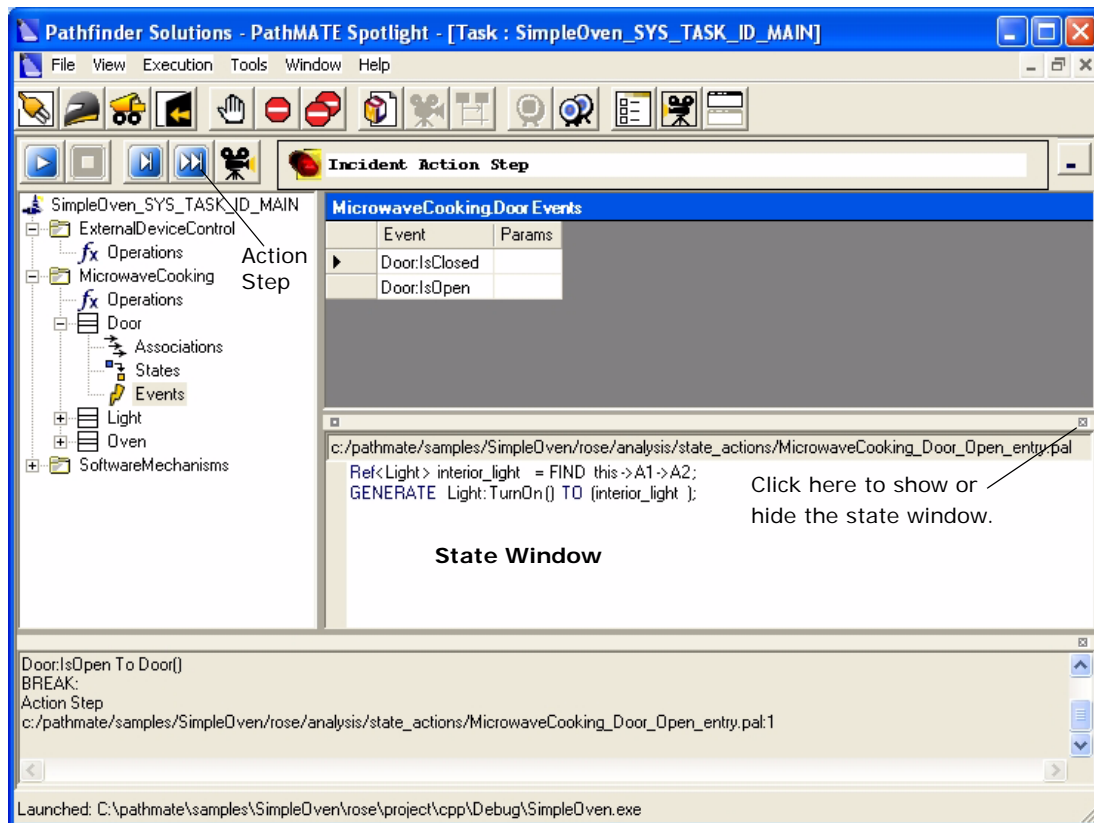

Figure 4-5. Step Through the Action Language in SimpleOven
1. Click the Action Step button above the browser (Figure 4-5).
Figure 4-5 shows how to open and close the state window. When the state window is open, use Ctrl+Q to toggle between action language and the event queue.